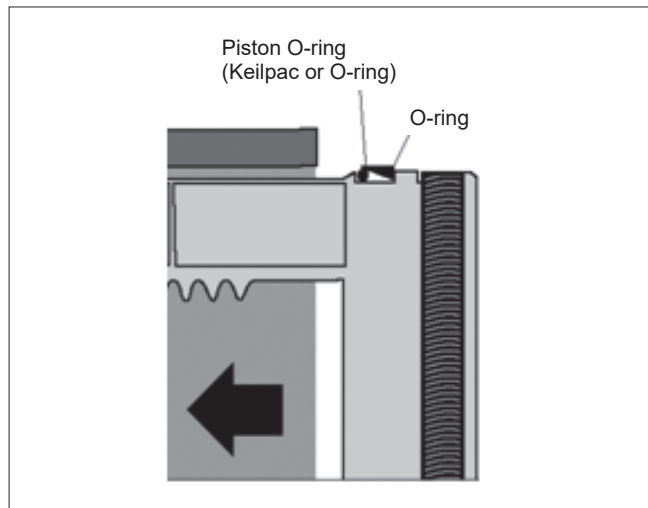

Fig. 11 Pushing the piston into position
- Equip the piston with new bearings and O-ring (see Figure 11). Pushing the piston into position (see Figure 11). Put the special clamp around the bearing O-ring and tighten it until you reach the stop. The turning element on the clamp must point towards the teeth of the piston while you are doing this. The turning element fits exactly in the phase of the actuator body. Place the piston with the clamp on the assembled actuator body (see Figure 13) and then knock the piston out of the clamp (see Figure 14) and into the body (see Figure 15). Turn the actuator body round and follow the same procedure with the second piston.